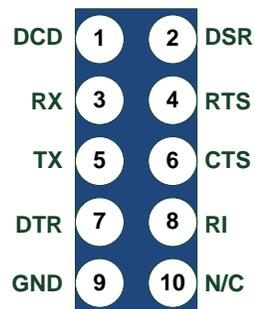

Figure 10 Serial Port Header
1. The pin-outs for Serial Ports COM1 – COM4 are shown in Figure 10.